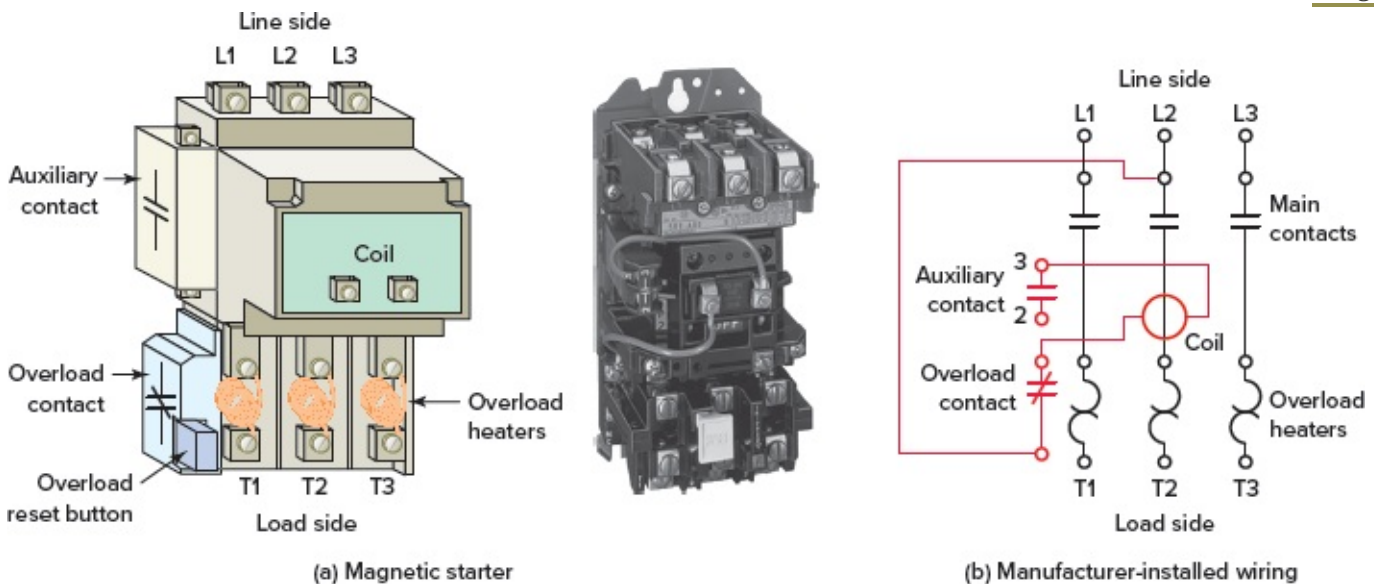

Figure 6-32 Magnetic motor starter.
The basic use for the magnetic contactor is for switching power in resistance heating elements, lighting, magnetic brakes, and heavy industrial solenoids. Contactors can also be used to switch motors if **separate overload** protection is supplied. In its most basic form, a magnetic motor starter (Figure 6-32) is a contactor with an overload protective device, known as an overload relay (OL), physically and electrically attached. The overload protective device protects the motor from overheating and burning up. Normally magnetic starters come equipped with some manufacturer-installed control wiring, which may include: